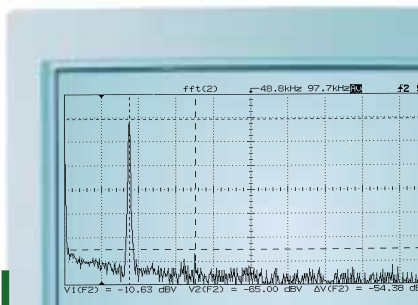
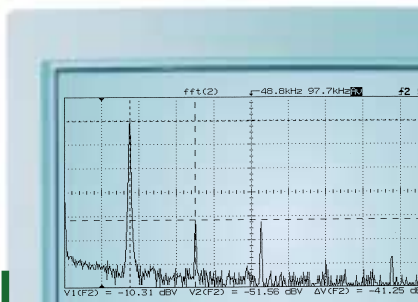

Figure 13: FFT of a HÜBNER LowHarmonics® Sinus-Tacho.
Figure 14: FFT of conventional sinewave encoder: the 2nd and 3rd harmonics are very pronounced.
- The effectiveness of this process is shown in a **frequency analysis (FFT)** of a HÜBNER LowHarmonics® Sinus-Tacho (➔ Figure 13). In comparison to this device, normal sinewave encoders have particularly pronounced 2nd and 3rd harmonics (➔ Figure 14).